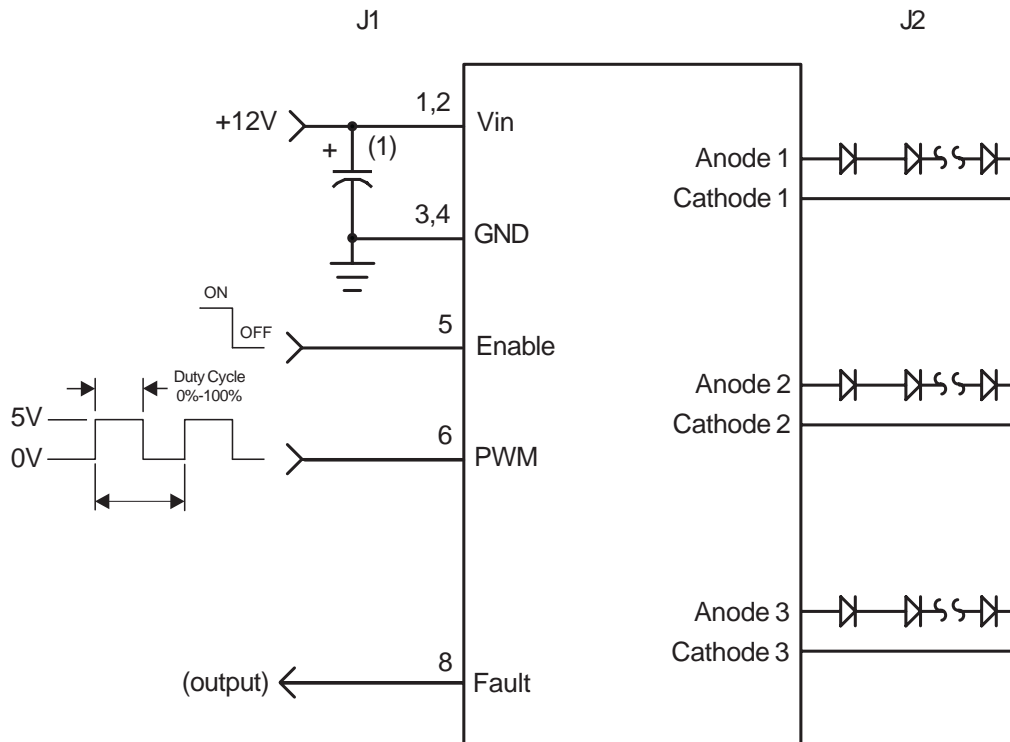

Figure 1
- **OPERATION:** External PWM configuration as shown in Figure 1 allows the user to control display brightness with an externally generated PWM signal. The user is responsible to provide the PWM signal. A dimming ratio up to 1000:1 is possible with this configuration. The minimum pulse width is 5 μs .